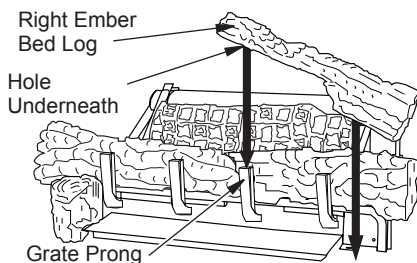

Figure 40 - Installing Right Ember Bed Log
5. The right ember bed log 24" & 30" (D-047) has a hole in the log that sets on the grate finger and the other end rests on the fireplace floor, place log as shown in Figure 40. The right ember bed logs for 18" (D-072) has a groove on the side that sets on the ember bed pan and the back of the log needs to rest against the front of the base. Make sure the flame from the ember pan does not touch the ember bed log. The back side of this log needs to rest against the front of the base assembly, make sure the flame from the ember pan does not touch the ember bed log.